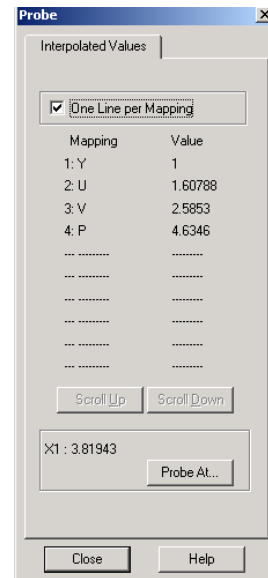

Figure 25-4. The Probe dialog for XY Line plots.
2. Move the pointer into the workspace, where it becomes a cross-hair. When you move into the axis grid area, the cross-hair is augmented by a line indicating along which axis you are probing. Click at the desired location. A cross appears on each probed mapping at the probed location, and the Probe dialog appears with a title of Interpolated Values, as in Figure 25-4.
For interpolated values, the Probe dialog appears lists every active mapping and the interpolated value the opposing axis variable for that mapping. The value along the probed axis is listed at the bottom of the dialog. For example, Figure 25-4 shows a probe along the X1 axis and the corresponding Y-values.